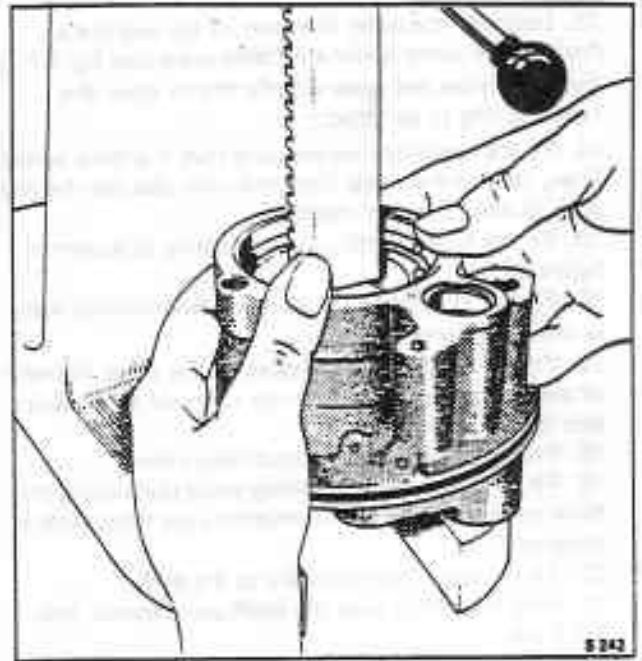

Fig. N2-11 Method of replacing end plate
13. Lubricate the outer diameter of the end plate. Position the pump under a suitable press (see fig. N2-11). Press down the end plate sufficiently to allow the retaining ring to be fitted.